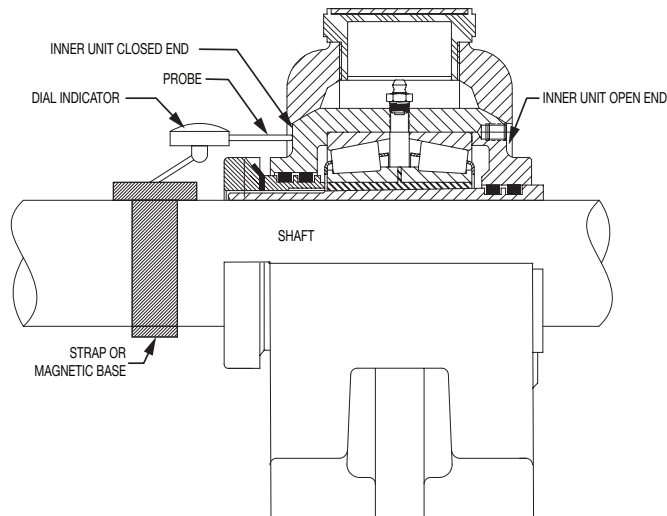

Figure 4
12. Tighten hold-down bolts to secure outer housing to support. Mount a dial indicator on the shaft near the non-expansion (fixed) bearing. Place the indicator probe so that it contacts the face of the inner unit housing on the closed end (end with mount nut). See Figure 4.